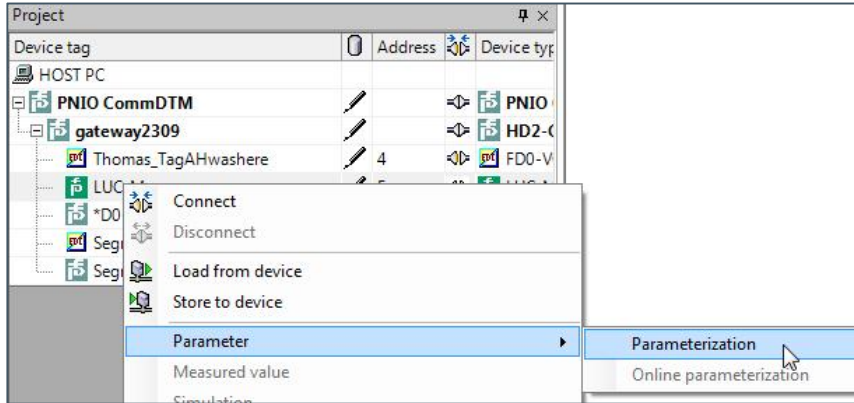

Figure 63: Search for offline parameterization
- 1) When the network participants are still offline, right-click the intended gateway or PROFIBUS PA device such as the Ultrasonic Level Sensor **LUC-M**** for the example 1. Then select **Parameter > Parameterization** (see: Figure 63: Search for offline parameterization).